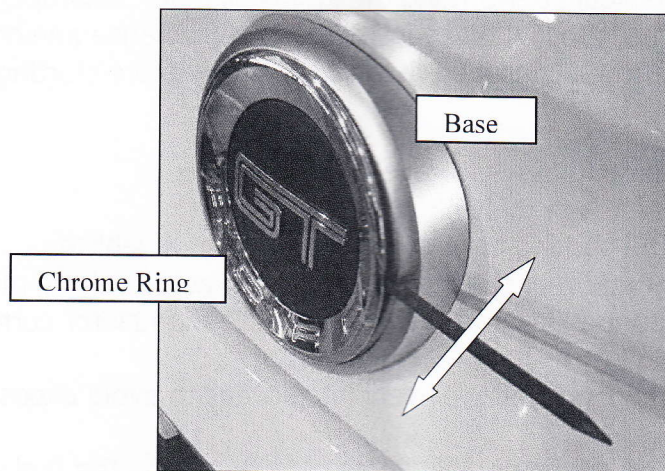

Figure 1
1. Insert a nylon pick tool between the base and chrome ring as shown in Figure 1. Carefully pry the chrome ring and GT badge upward snapping the five (5) plastic pins.